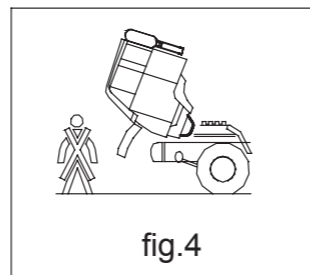

fig.4
(3) When tilting , anybody cannot stand in the near front of the cab (fig4)
(4) Turn the tilting hand lever of the tilting oil pump to “↑”position ,tip up the cab with hand pump.
(5) Turn the tilting hand to :“↓”position , tip down the cab to its original position with hand pump.